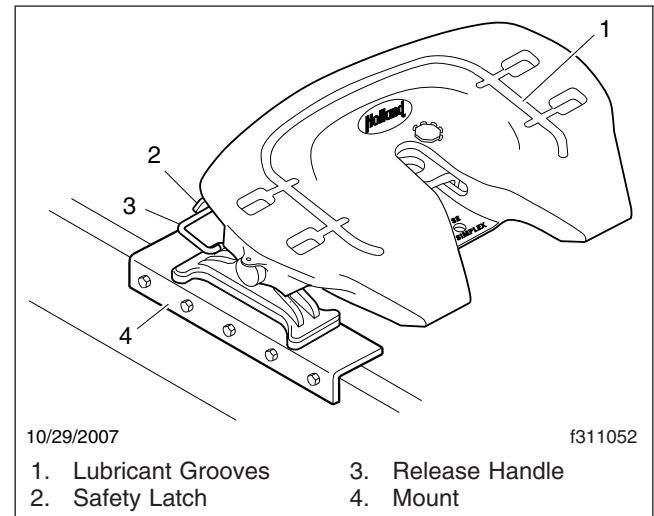

Fig. 1, Holland FWS1 Fifth Wheel
4. When the wheel is locked, the safety latch must swing free and fall freely into position. See Fig. 1.